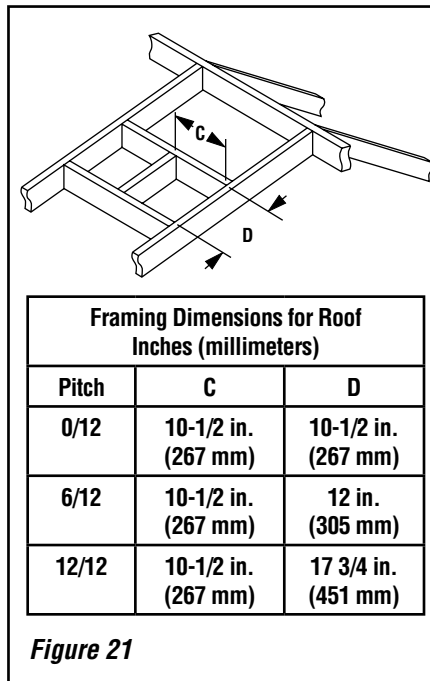

Figure 21
H. Frame roof opening - Identify location for vent at the roof. Cut and/or frame opening per Roof Framing Chart and **Figure 21**.